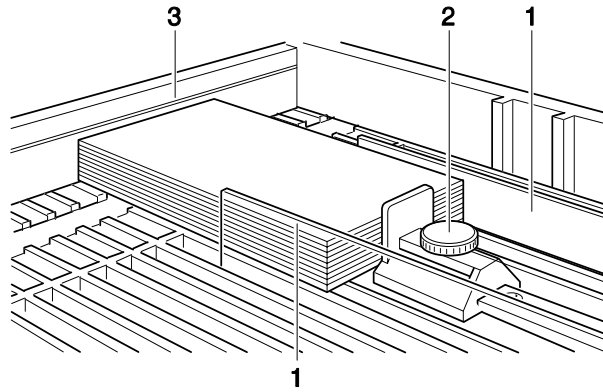

Figure 6 - Plug-in bars, stop bracket and limitation line
- Fix the plug-in bars (fig. 6,1) according to the film sizes.
- Centre the films per track between 2 plug-in bars (fig. 6,1). Position the stop bracket (fig. 6,2) slightly against the film stack, leaving a space of a few millimetres and tighten the screws. This is to avoid jamming of the film.
- The maximum fill line (fig. 6,3) needs to be visible.